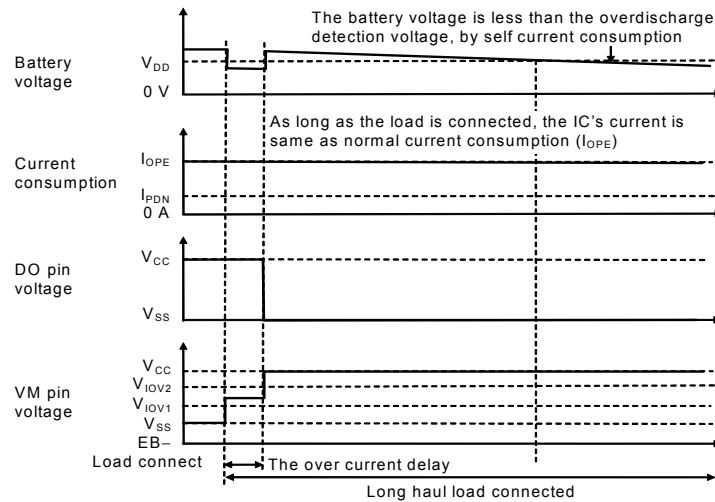

Figure 11
- After the overcurrent detection, the load was connected for a long time, even if one of the battery voltage became lower than overdischarge detection voltage ($V_{DD1, 2}$), the IC can't detect the overdischarge as long as the load is connected. Therefore the IC's current consumption at the one of the battery voltage is lower than the overdischarge detection voltage is same as normal condition current consumption (I_{OPE}) (refer to the **Figure 11**).